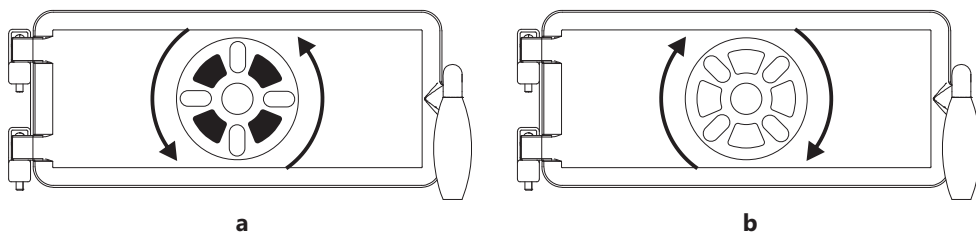

Figure 5
Set the primary air regulator (Figure 1 pos. 14) in open position (Figure 5-a) during ignition and keep it in that position until the cooker is in stable operation after inserting larger pieces of wood or coal.
Then set the regulator in the closed position (when burning wood and wood briquettes - Figure 5-b) and keep it in that position while the cooker is in operation.